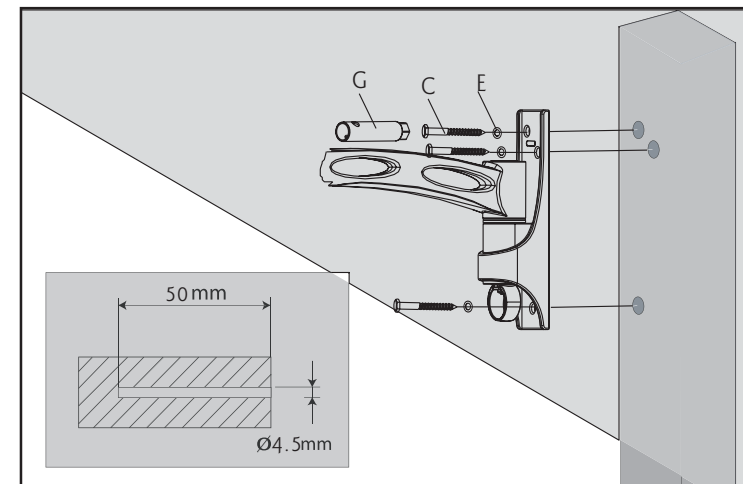

Fig 1
Use an electronic detector in lay position to detect the position of batten, then making a mark. Put the wall mount in the installing position flatly, using it as template, lining out holes in the batten. Using a aiguille of dia.4.5mm to drill three 50mm deep holes. Securely mount the wall plate with supplied Long bolts(C) and Washer(E) by Box wrench(G). As shown in Fig 1.